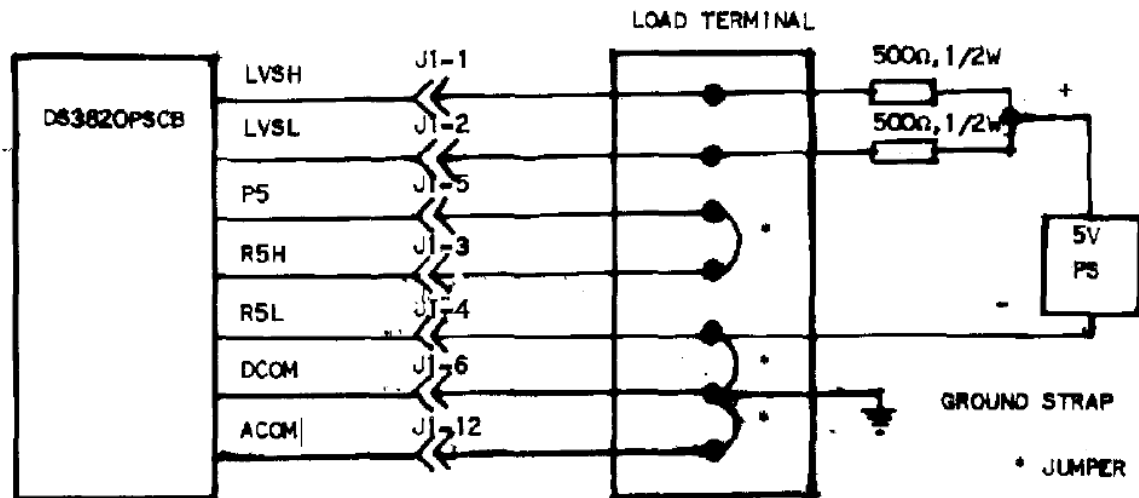

FIGURE 1
- 6.3 SET THE INPUT TO 75 VOLTS +/-1 VDC. ALSO APPLY THE 5V P.S. AS INDICATED IN FIGURE 1 CONNECT 500 OHM, 1/2W RESISTORS, AND 5 VOLT POWER SUPPLY AS FOLLOWS.